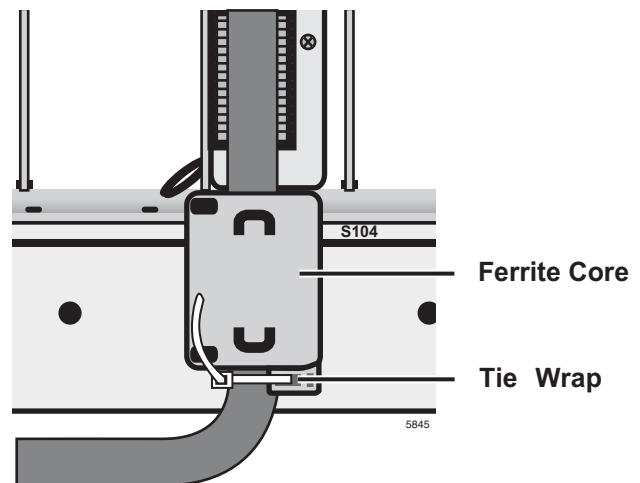

Figure 4-2 BDKU Ferrite Core
3. Install the Ferrite Core (comes with the BDKU) onto the 25-pair cable that connects the BDKU to the MDF: Flip open the two snaps on the Ferrite Core, then snap it shut around the BDKU cord as shown in Figure 4-2. The core must be as close as possible to the BDKU.